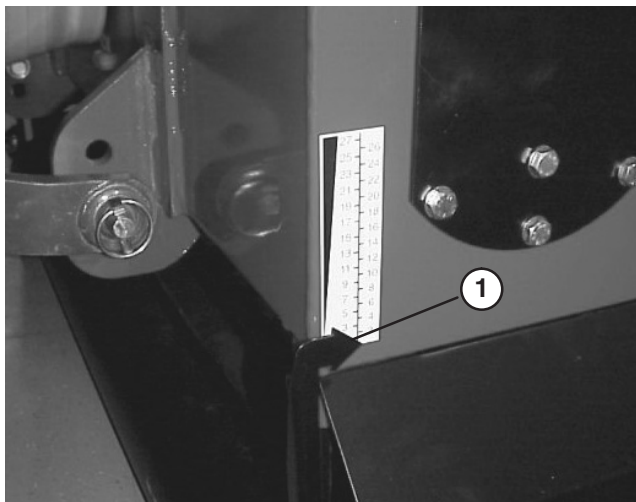

Figure 22
- B. Make sure aerator roller is on the ground and depth indicator is set at desired setting (Fig. 22).